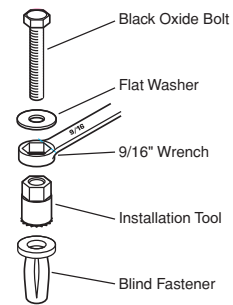

Figure 4
- Install Blind Fastener using Fig. 4 as a guide.